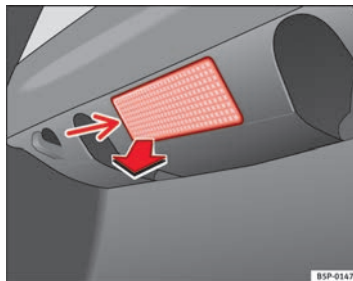

Fig. 199 Luggage compartment light
- Remove the bulb by pressing on the inside edge of this -arrow- using the flat side of a screwdriver ⇒ fig. 199. ►